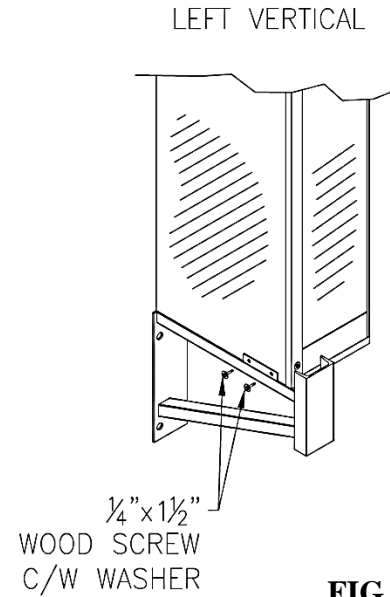

FIG. 9
- a. **Position Vertical Frame** (Figure 9).